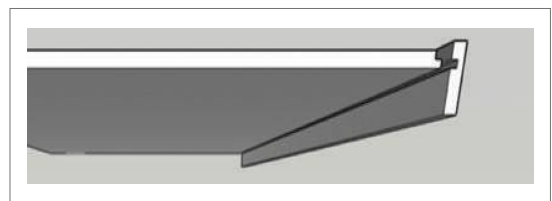

Fig.7
- When it comes to a "Waterfall"-edge, the top sheet will need to be rebated while the edge will need grooving (Fig.7)